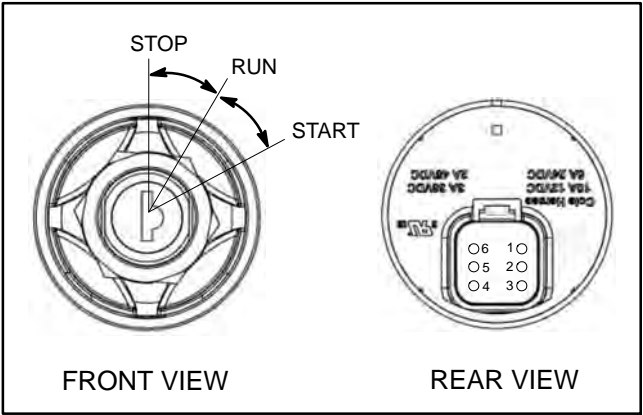

Figure 20
The ignition (key) switch is located on the control panel and has three (3) positions: STOP, RUN and START (Fig. 20). The Toro Electronic Controller (TEC) monitors the operation of the ignition switch and reacts to the various ignition switch positions.
4. The ignition switch terminals are identified in Figure 20 and the circuitry of the switch is shown in the chart in Figure 21. With the use of a multimeter (ohms setting), the switch functions can be tested to determine whether continuity exists between the various terminals for each switch position. Verify continuity between switch terminals.